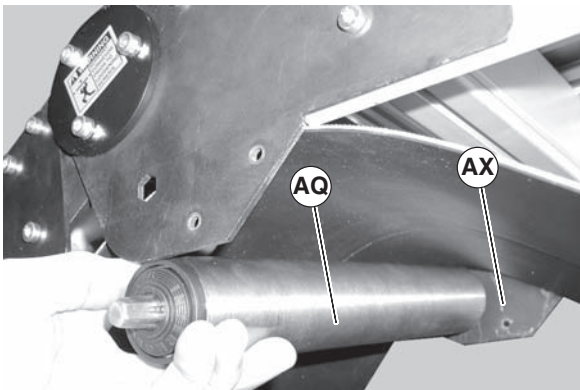

Figure 28
3. Install spring loaded return pulley (Figure 28, item AQ) into knuckle plate (AX).